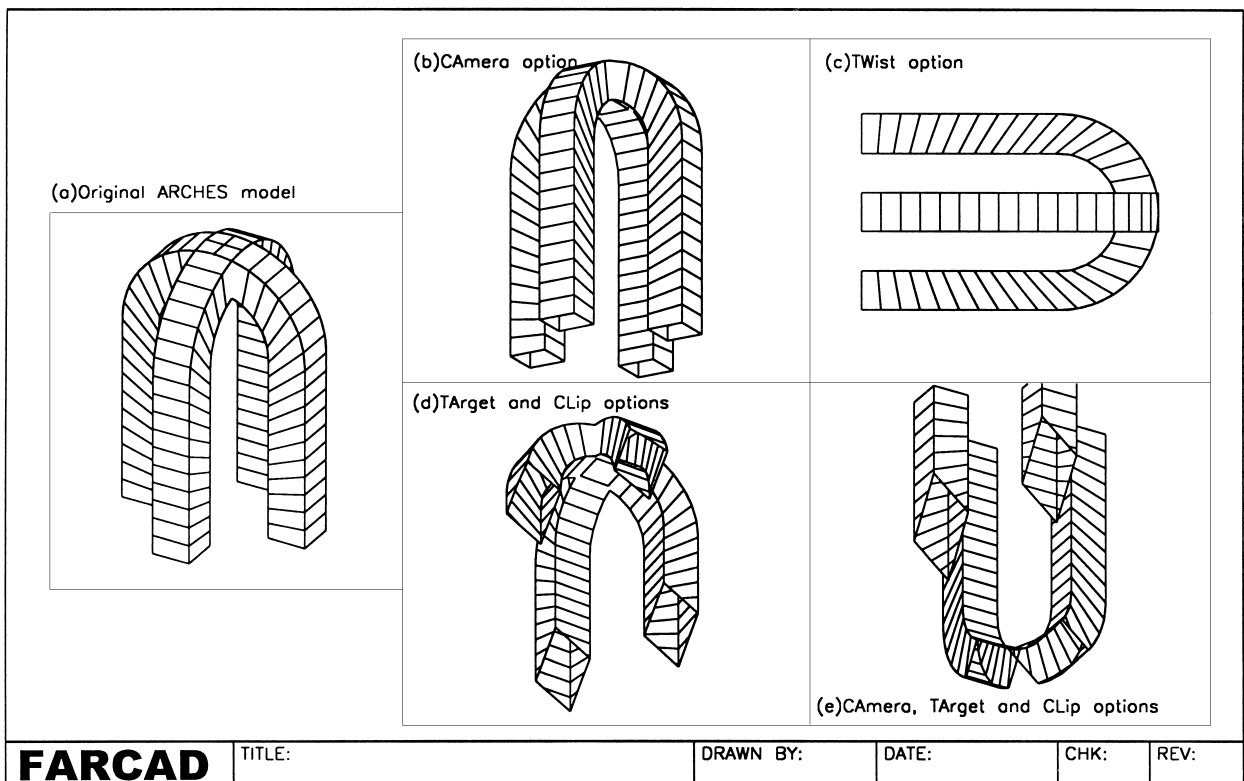

Figure 24.3 Dynamic view example 2 using MODR2002\ARCHES.
- 2 Make the upper left viewport active and refer to Fig. 24.3
- 7 *Note:* if the clip-front distances do not give the exact same effect as Fig. 24.3 it could be as a result of your model having a different zoom effect from mine.